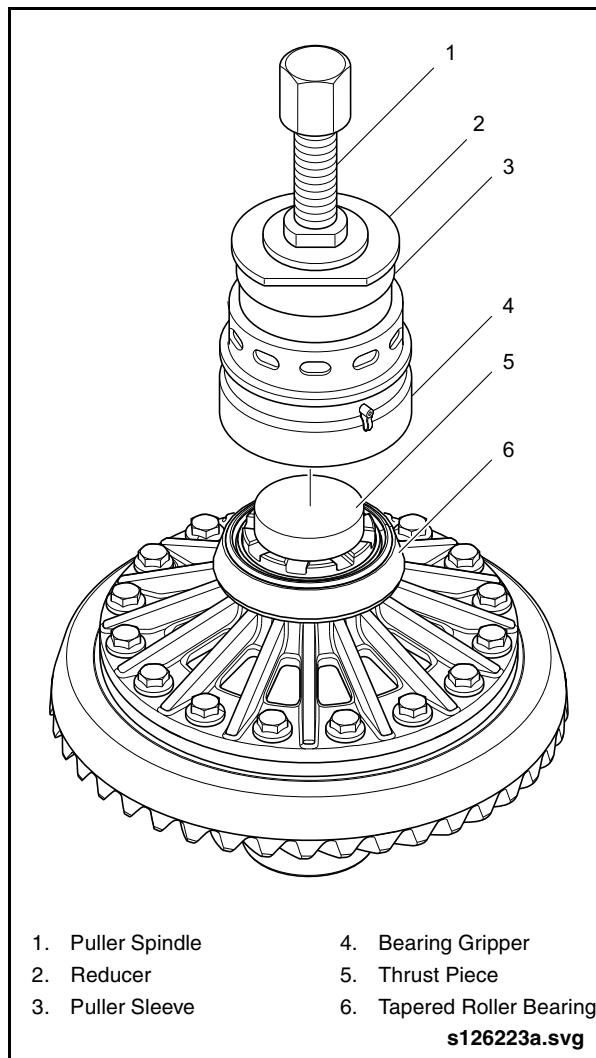

Fig. 2-55: Attaching Mechanical Puller
1. Insert the Differential Thrust Piece (Item 50 from Special Tools List) into differential. See "Fig. 2-55: Attaching Mechanical Puller" on page 50.
3. Assemble the Puller Spindle with Reducer and Puller Sleeve (Items 53, 54 & 52 from Special Tools List) and then mount on the bearing gripper. See "Fig. 2-55: Attaching Mechanical Puller" on page 50.